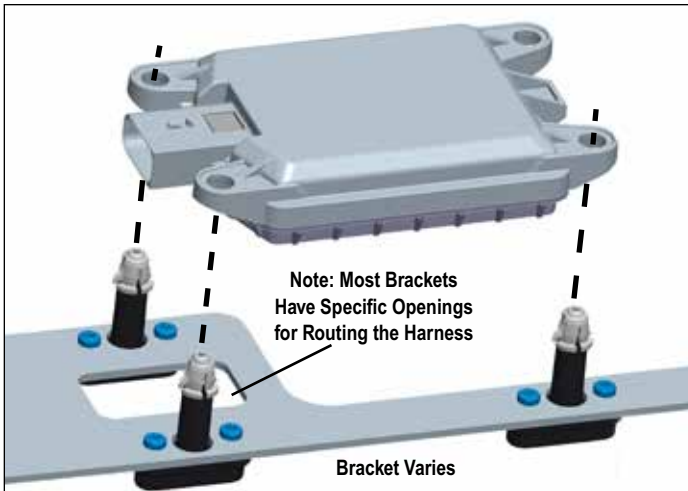

FIGURE 5 - RADAR SENSOR INSTALLATION (EXPLODED VIEW)
12. See Figure 5. With the connector pointing to the passenger side of the vehicle when installed, align the holes in the radar sensor with the adjusters. Install the new radar onto the adjusters by pressing, by hand, with moderate force, on the front surface of the radar. Verify that all three clips at the top of the adjusters have fully engaged into the radar.